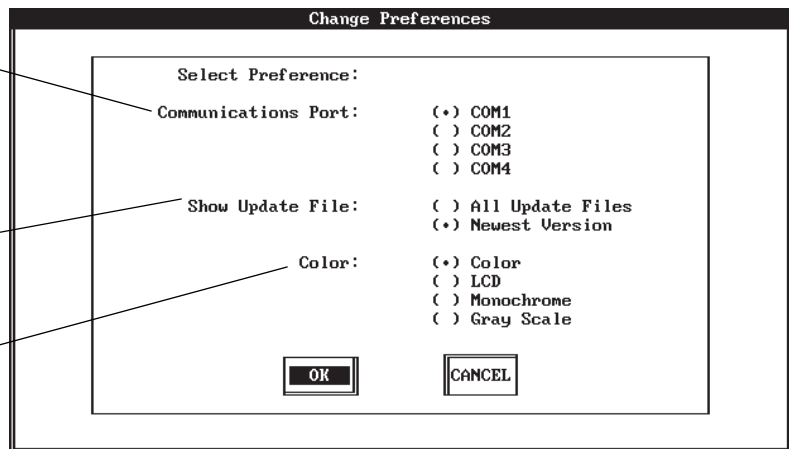

Figure 6-10 Preferences Window
FLASH UPDATE has a set of factory settings that appear in Figure 6-10. Change them when your computer requires different settings.
2. Select Preferences from the Options menu. The notes in Figure 6-10 explain the selections in the window. When you have selected your preferences, select OK.